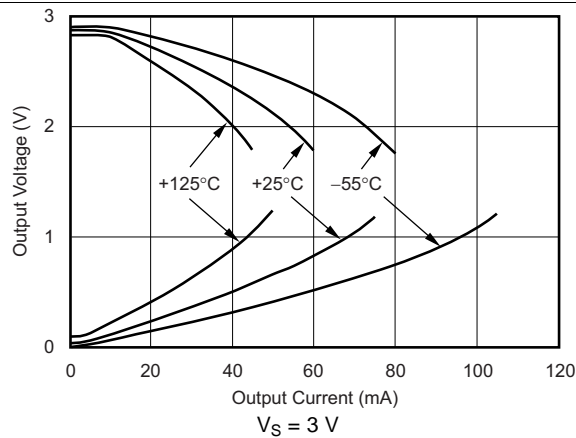
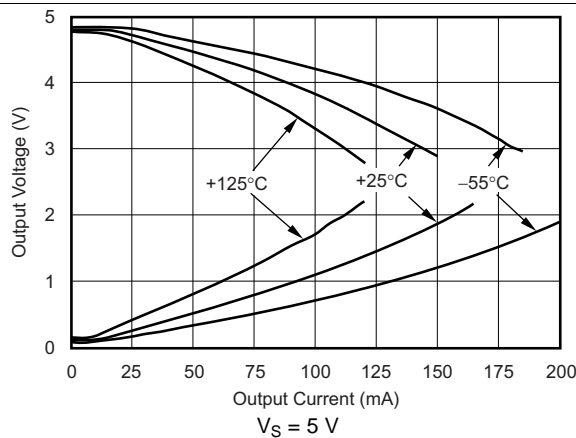
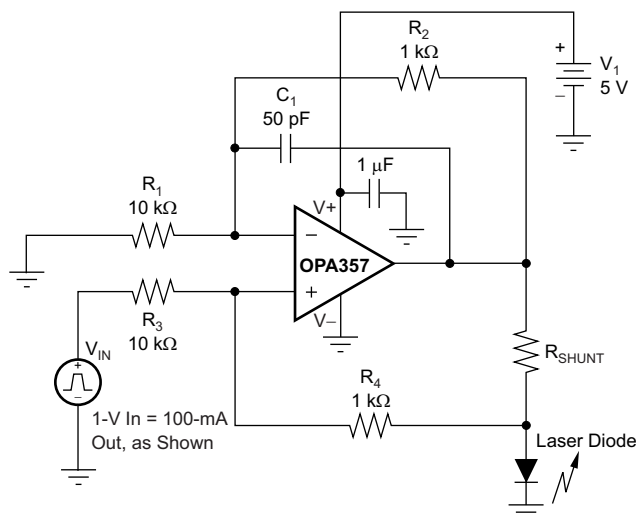
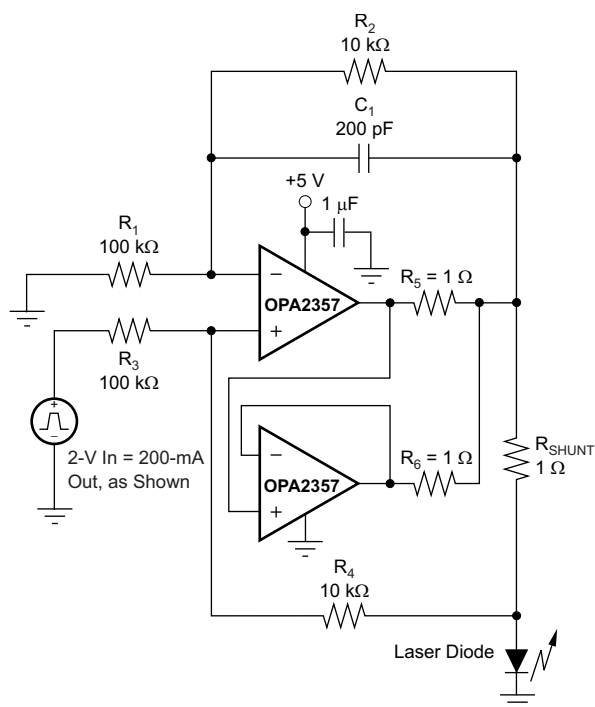

Figure 21. Output Voltage Swing vs Output Current
Figure 23. Output Voltage Swing vs Output Current
Figure 33. Laser Diode Driver
Figure 34. Parallel Operation
(1) See Figure 21 and Figure 23.
(2) Specified by design.
A class AB output stage with common-source transistors is used to achieve rail-to-rail output. For high-impedance loads ($> 200 \Omega$), the output voltage swing is typically 100 mV from the supply rails. With 10- Ω loads, a useful output swing can be achieved while maintaining high open-loop gain; see Figure 21 and Figure 23.
The OPA357 output stage can supply a continuous output current of ± 100 mA and still provide approximately 2.7 V of output swing on a 5-V supply, as shown in Figure 33. For maximum reliability, TI recommends running a continuous DC current in excess of ± 100 mA; see Figure 21 and Figure 23. For supplying continuous output currents greater than ± 100 mA, the OPA357 can be operated in parallel as shown in Figure 34.